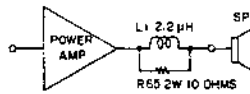

Fig. 17
9) LI and R65 Operation (Refer to Fig. 17 to 19)
As shown in Fig. 17, most amplifiers have an inductance or a resistor between the output and the speaker. The inclusion has several advantages.